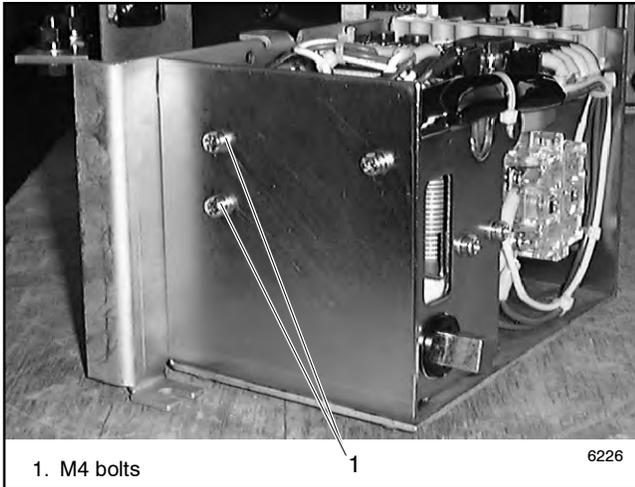

Figure 7-18 Select Coil Assembly Bolts
- Remove two M4 bolts shown in Figure 7-18 and remove the select coil assembly.